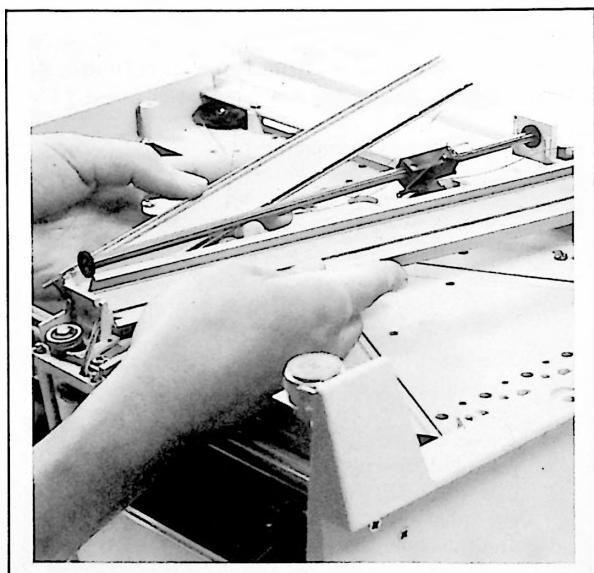

Figure 5-6. Y-Axis Balance Potentiometer Removal
g. Y-axis balance potentiometer assembly should now be free of recorder. See Figure 5-6. Remove bottom pulley assembly and install on new potentiometer assembly, Part Number 07040-60550.